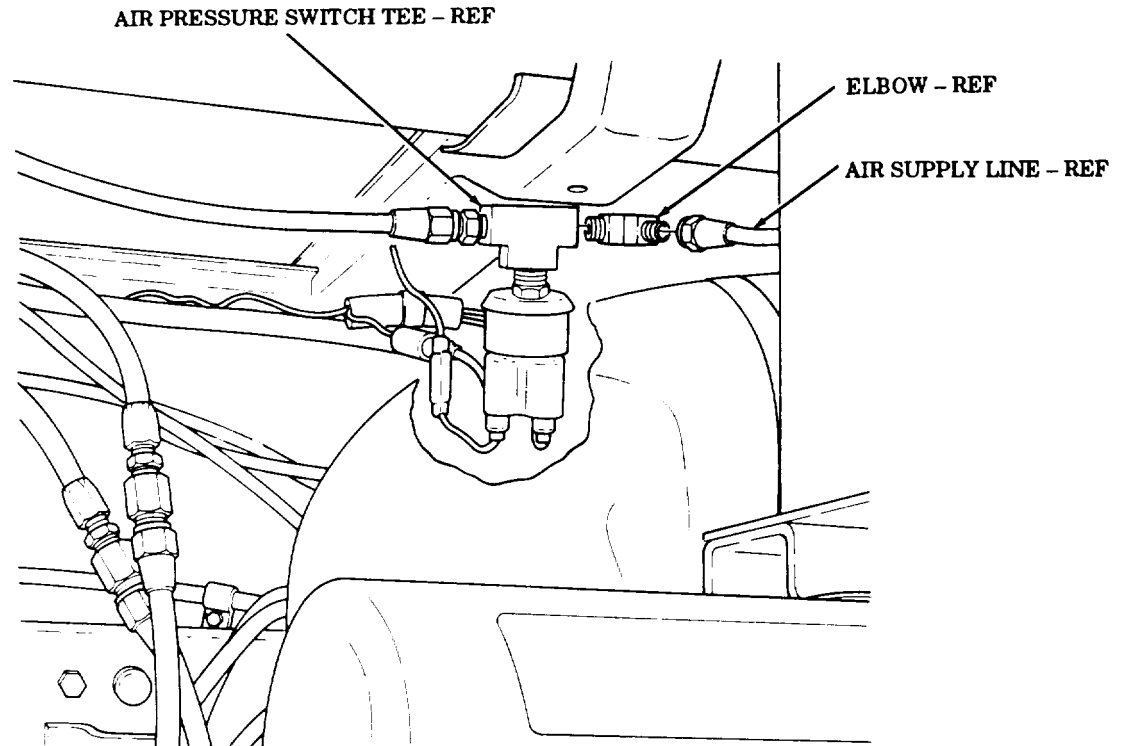

FIGURE 3
- (8) Remove air supply line and elbow from air pressure switch tee as shown in figure 3.